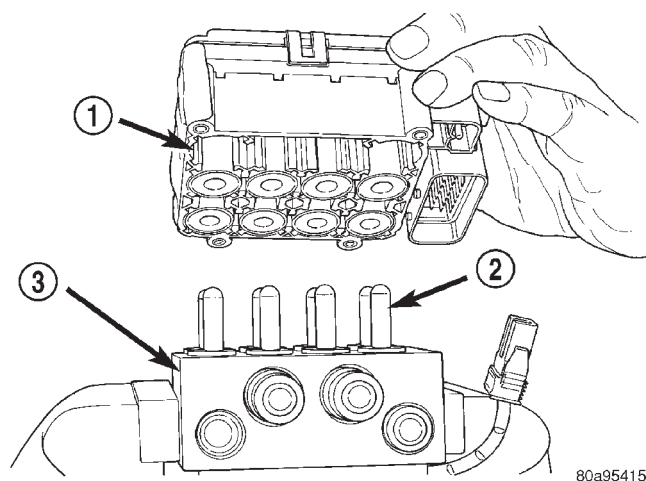

Fig. 52 Remove/Install CAB
(4) Remove the CAB from the HCU (Fig. 52).
(1) Install the CAB (Fig. 52) on the HCU.